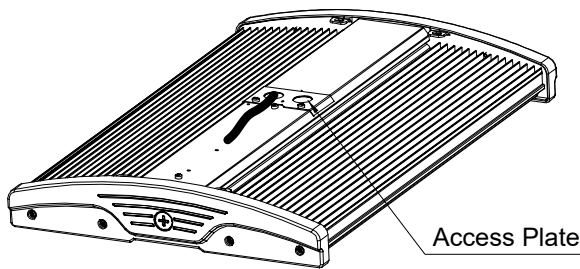

Figure 2
1. Remove Access Plate and necessary Knockout(s). Pull out three AC wires through the Knockout. Be careful not to cut the wires. See Figure 2.